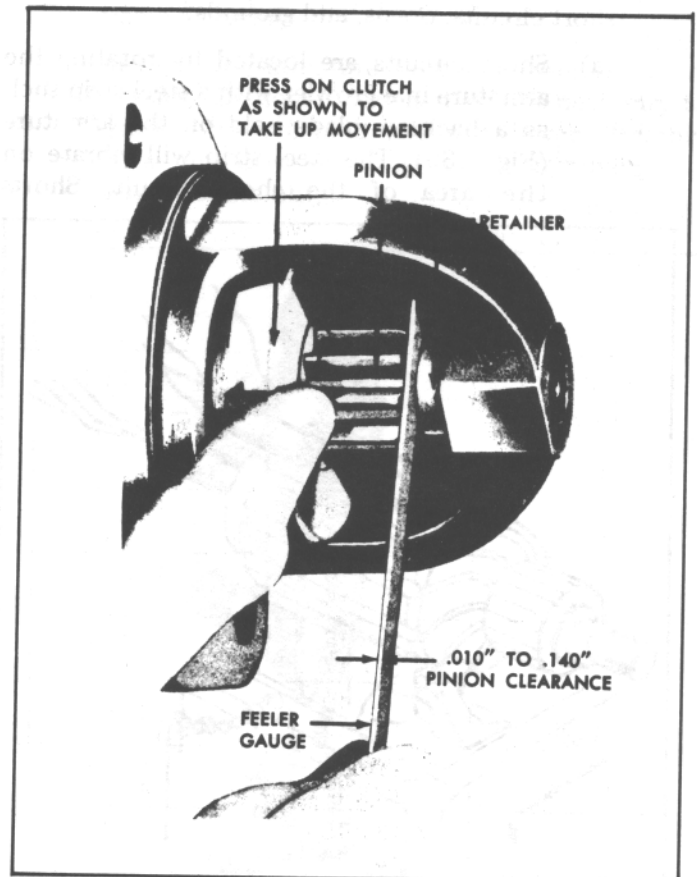

Fig. 144. Checking Pinion Clearance.
5. Measure the distance between pinion and pinion stop (Fig. 144).